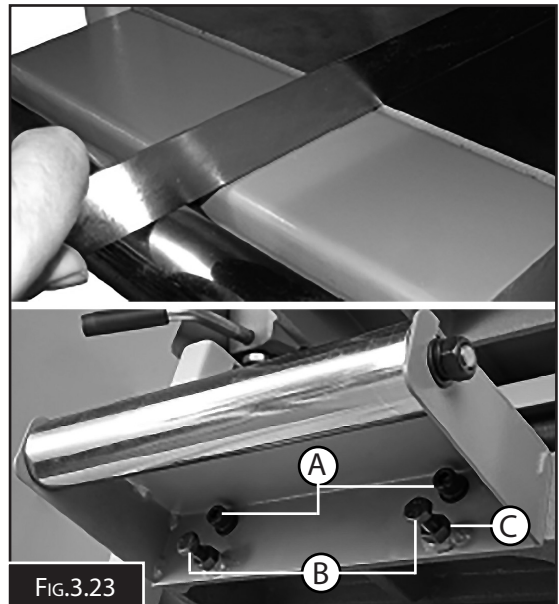

FIG.3.23
1. Place a straight edge across the thickeninging table and guide roller and check they are both in line with each other. (Fig.3.23)
2. If adjustment is required, loosen the two cap head bolts (A) and adjust the Hex bolts (B) until alignment is reached, tighten the nuts (C) to lock the setting. Re-tighten the cap head bolts (A), (Fig.3.23)